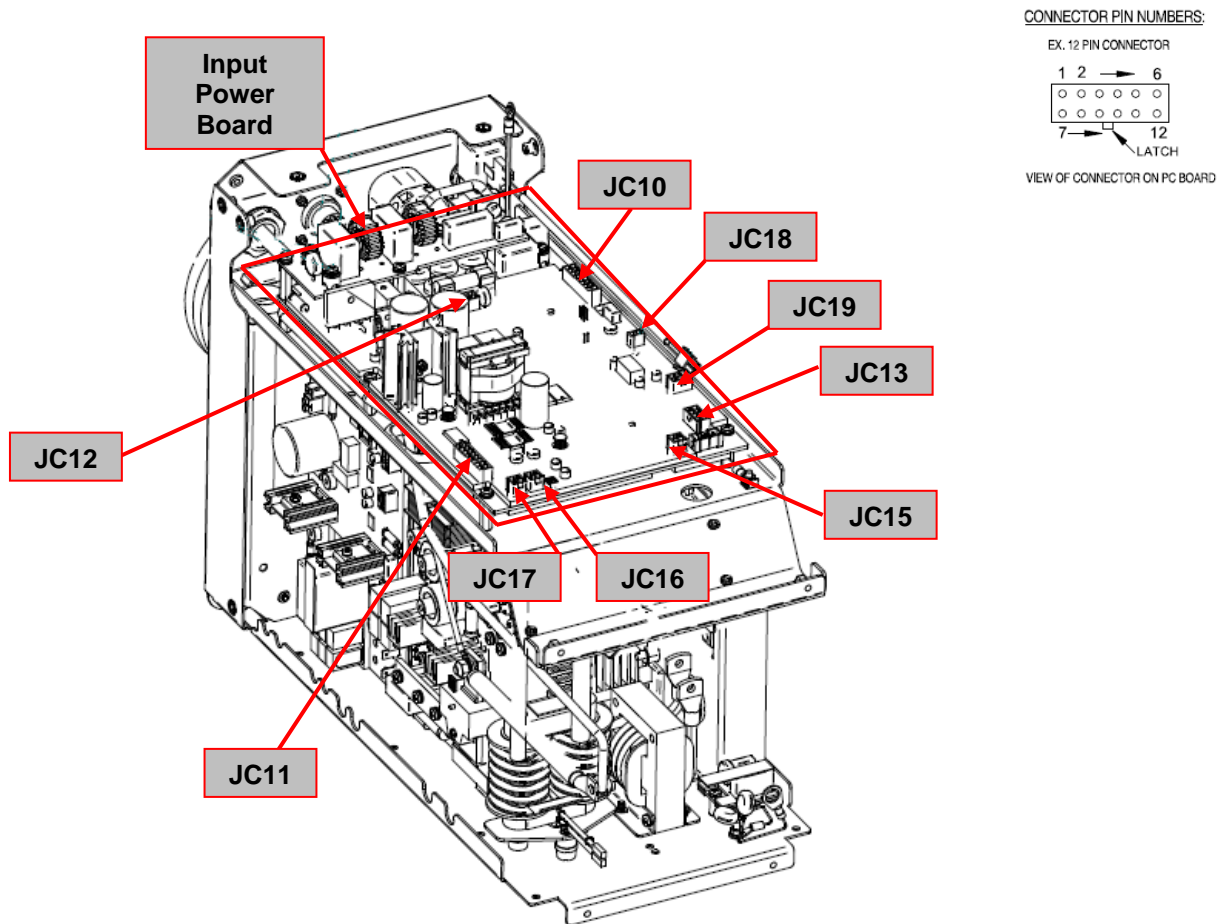

Figure 4 – W05X1604-2 Input Power Board location
3. Locate the Input Power Board. See **Figure 4**.
6. Switch to ON position the main switch and using the voltmeter perform the tests as indicated in **Test Table 4**. See **Figure 4** for correct test points location.